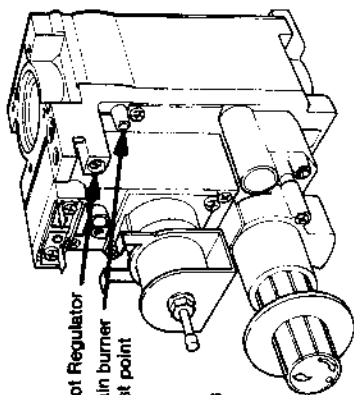

Fig. 23
6.7.4 Locate the main burner pressure test point (Fig. 23) and slacken the screw half a turn in an anti clockwise direction. Attach a suitable pressure gauge. Turn on the mains electricity supply, turn on a domestic hot water tap to operate boiler in dhw mode. Adjust the hot water thermostat to maximum setting.